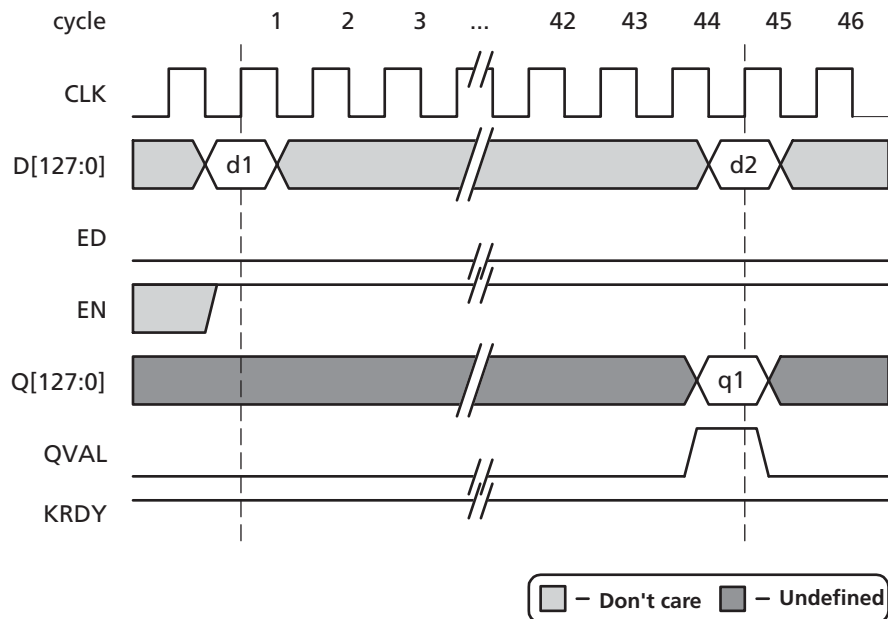

Figure 8 • Example Decryption Sequence
To begin the process of decrypting data as shown in Figure 8, perform the following procedures:
2. Set D[127:0] to the ciphertext data (d1 in Figure 8) to be decrypted.
transition from logic '0' to logic '1' and remain valid for one clock cycle, indicating that valid plaintext (unencrypted data, shown as q1 in Figure 8) is available on the Q[127:0] outputs. Note that the decrypted plaintext data is only available during clock cycle 44, thus the user must register or latch the data on Q[127:0] using the QVAL signal as a qualifying register enable or latch enable.
As shown in Figure 8, continuous decryption is possible. For example, the second 128-bit ciphertext data word (d2 in Figure 8) can be immediately decrypted by setting the D[127:0] inputs to d2 on the rising clock edge of clock cycle 45.